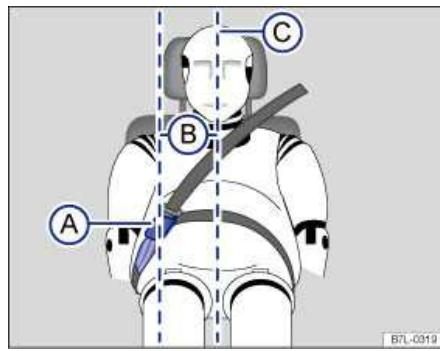

Fig. 69 Positioning of the safety belt extender.
Key to fig. 69:
- Never use a safety belt extender if the distance (B) between the front edge of the safety belt extender buckle (A) and the centerline of the person using the safety belt extender ⇒ **fig. 69 (C)** is less than 6 inches (15 cm).